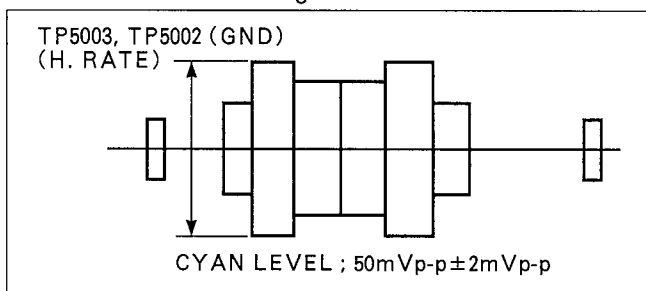

Figure E7
3. Adjust VR5002 so that the cyan level becomes 50mVp-p ± 2mV as shown in Figure E7.